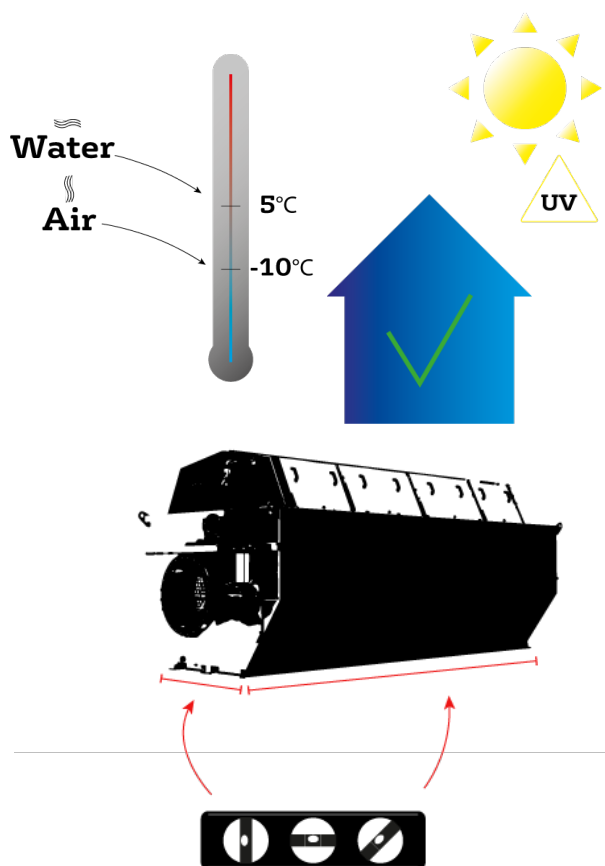

Figure 4.4 Installation of filter
- ▶ The filter must be level in both directions (see Figure 4.4).